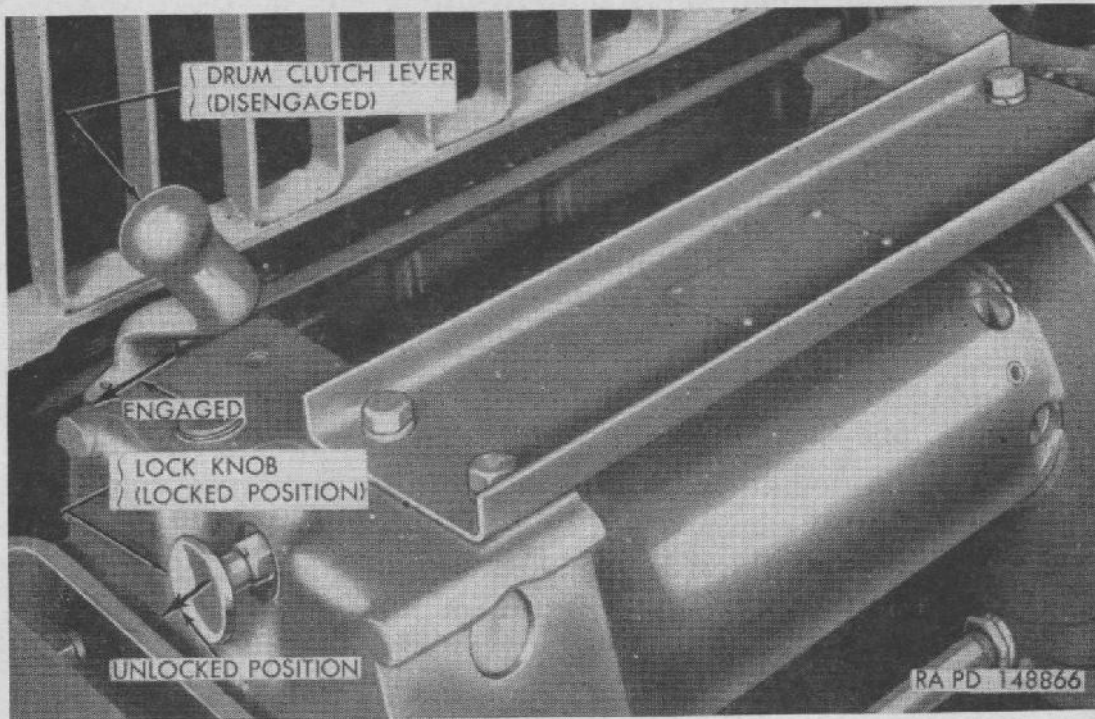

Figure 18. Controls at winch.
- (1) *Drum clutch lever.* Hand operated lever, located at right side of winch (fig. 18), is used to engage or disengage winch drum from power-take-off drive shaft. Pulling the lever away from winch engages drum. Pushing lever in toward winch disengages drum.
- (2) *Lock knob.* Lock knob, on right side of winch frame (fig. 18), locks drum to prevent cable unwinding, as when under way. Knob is pulled out and turned one-quarter turn to disengage drum. To again engage drum, turn knob one-quarter turn and release. Inner end of lock engages one of several holes in drum.
- (3) *Automatic controls.* An automatic safety brake in winch mechanism will sustain a load while power-take-off lever is being positioned. A drag brake will prevent drum from over-running cable when cable is being pulled from drum.
- (1) Place power-take-off lever into NEUTRAL.
- (2) Push drum clutch lever at winch (fig. 18) in toward winch drum (disengaged position). Winch will not operate with lever in this position.
- (3) Make sure that lock knob (fig. 18) is in, engaging drum (locked position). Cable will not unwind with lock knob in this position.
- (a) Pull out lock knob at winch (fig. 18) and rotate one-quarter turn to disengaged position (knob out).
- (b) Pull drum clutch lever (fig. 18) outward as far as possible (away from winch drum).
- (a) At winch, pull out lock knob and rotate one-quarter turn to unlocked position (fig. 18). Pull drum clutch lever outward as far as possible (away from winch drum).
- (1) Paying out or unwinding cable under load should be accomplished in the cab.
- (2) At winch (fig. 18), pull out lock knob and rotate one-quarter turn to hold in unlocked position. Pull drum clutch lever as far as possible away from winch drum (engaged position).
- (3) Place transmission control lever in N (neutral). Start engine.
- (4) Place transfer lever in DOWN-NEUTRAL position. Place power-take-off lever in UP-REVERSE position.
- (5) With engine idling, place transmission control lever into F-2 LOW RANGE.
- (6) Accelerate engine (not over one-third throttle) to pay out cable.
- (1) *From cab.*
- (a) At winch (fig. 18), pull out lock knob and rotate to unlocked position (knob out). Pull drum clutch lever outward as far as possible away from winch drum (engaged position).
- (2) *At winch.*